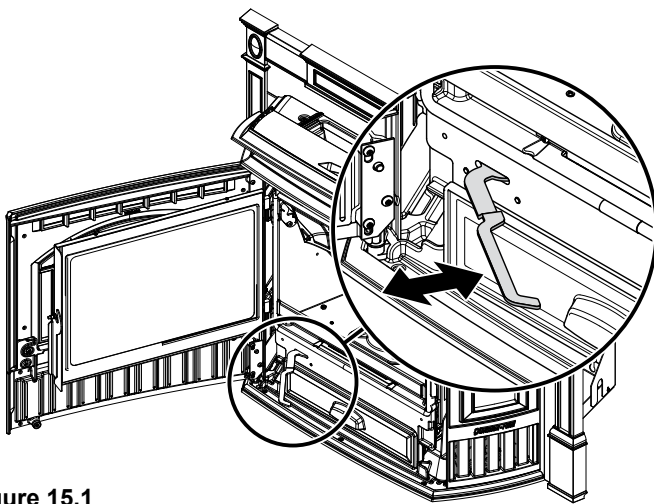

Figure 15.1
- c. Pull firepot floor cleaning lever two times until the ash falls into the ash pan below (**Figure 15.1**).